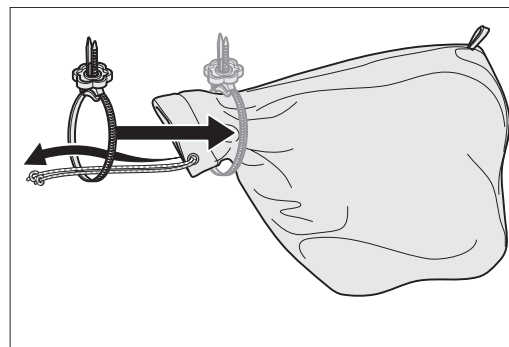

Fig. 2: Slide the MultiClip fastener over the opening of the dust bag.
- 2 Slide the MultiClip fastener over the opening of the dust bag (Fig. 2).